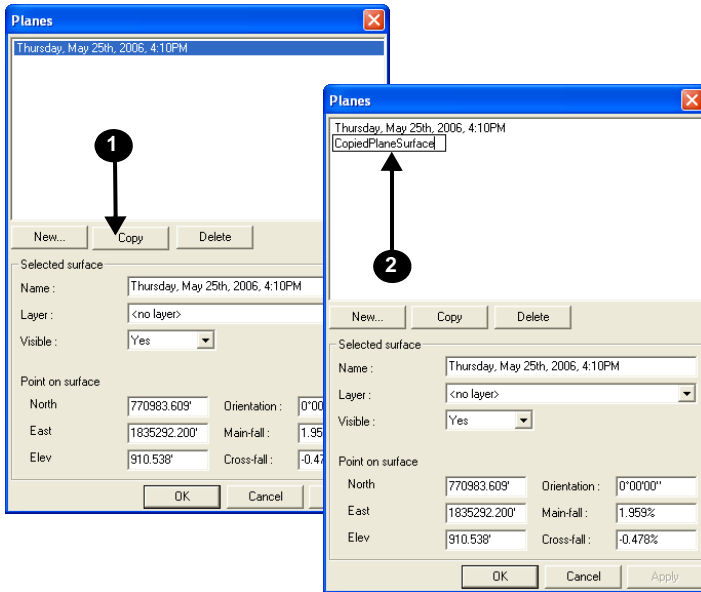

Figure 7-7. Create a Copy of a Plane Surface
2. Highlight the plane surface to copy and press **Copy** (Figure 7-7 on page 7-8).
3. Type a name for the duplicate plane surface and press **Enter** (Figure 7-7 on page 7-8).